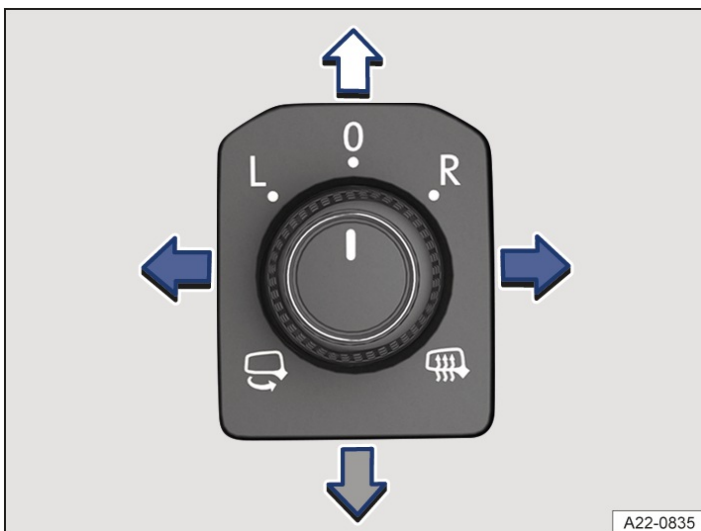

Fig. 1 In the driver door: rotary knob for the exterior mirrors.
2. Turn the rotary knob in the driver door to the desired symbol → Fig. 1.